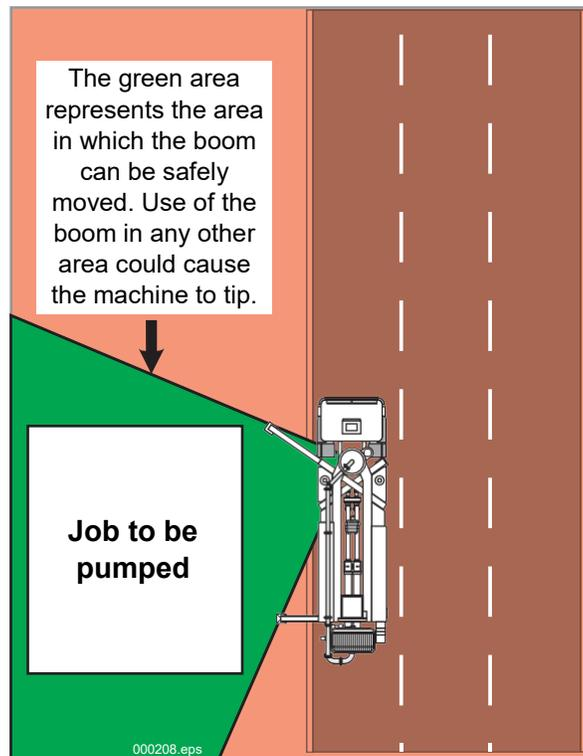

Figure 1
“Shorttriggering” describes the act of not extending the outriggers on the side away from the pour (Figure 1). Shorttriggering is not recommended, but under certain conditions it may be required, and can be done safely if proper procedures are followed. If it is not possible to extend the outriggers on the side **away from the pour**, the unit can be set-up with the outriggers jacked down but not extended.
3. Fully extend and jack the outriggers on the side of the pour (Figure 1). Use proper cribbing for the soil conditions.
6. At no point during the pour should the boom be moved outside the area between the center lines of the fully extended outriggers (Figure 1).